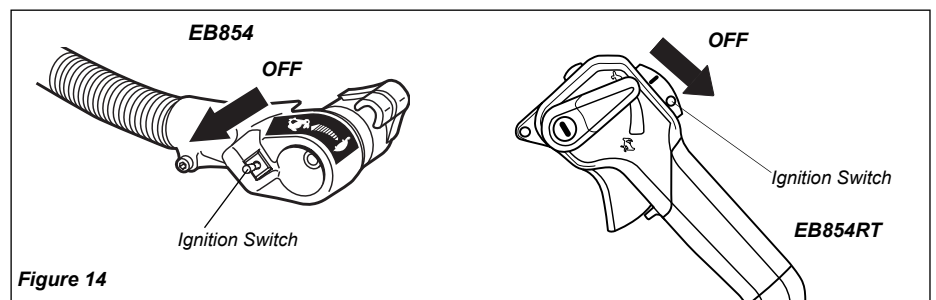

Figure 14
2. Move the ignition switch towards the rear to "O" (OFF). See Figure 14.